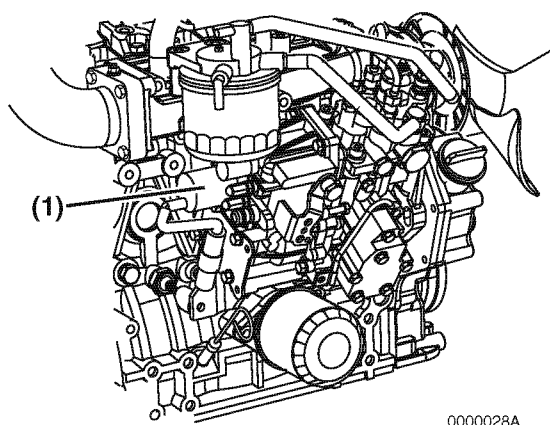

Figure 19
When the key is turned to the ON position, the engine stop solenoid (**Figure 19, (1)**) is energized and allows the fuel injection pump to deliver fuel to the engine, allowing the engine to be started. When the key is turned to the OFF position, the engine stop solenoid is de-energized and shuts off the fuel supply from the fuel injection pump to the engine, causing the engine to stop.